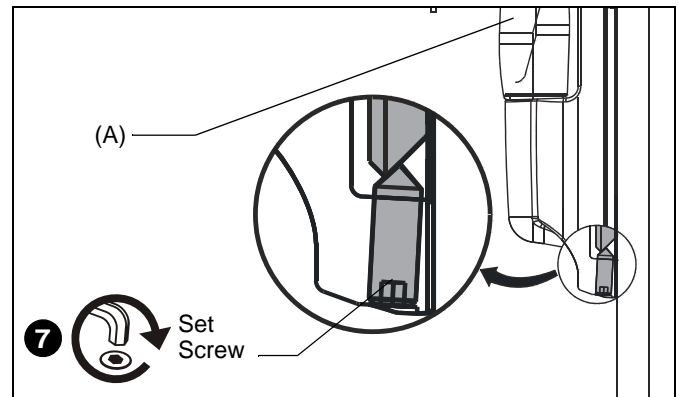

Figure 3
7. Use 5/32" hex driver to tighten set screw in bottom of wall mount. (See Figure 3)